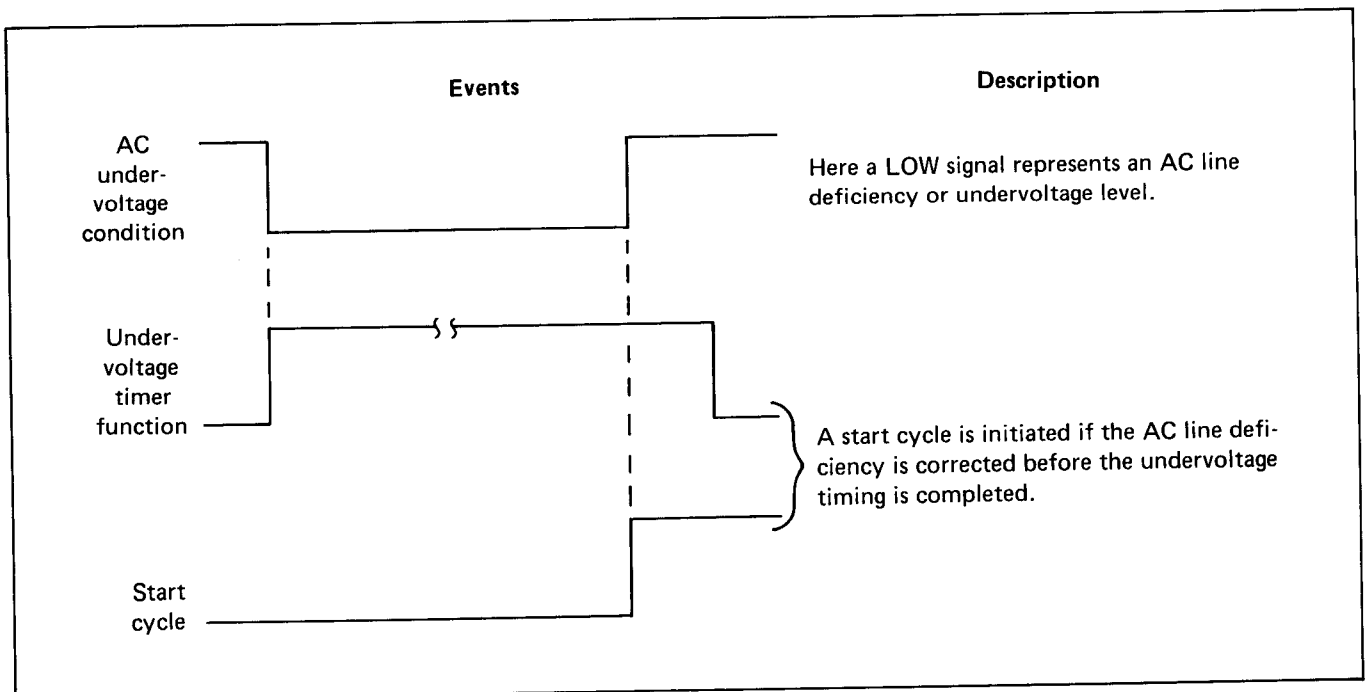

Figure 6.6 – Time Undervoltage Events Diagram
6.20 Time Undervoltage – The time undervoltage function provides the capability to initiate a start cycle after the incoming AC supply is interrupted—that is, drops below 70% of the normal voltage. If the incoming AC supply is restored before the time undervoltage setpoint time has elapsed, a start cycle is initiated. This is utilized with a 3-wire momentary contact START/STOP pushbutton application. It is **not** necessary with a maintained-contact start control application. (See Figure 6.6.)